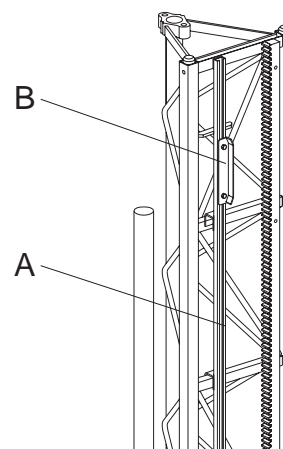

Fig. 6-12 Platform striker plate
2. Mount the rail (fig. 6-12, A) with the landing striker plate (fig. 6-12, B) for the landing stop at the required height in the mast